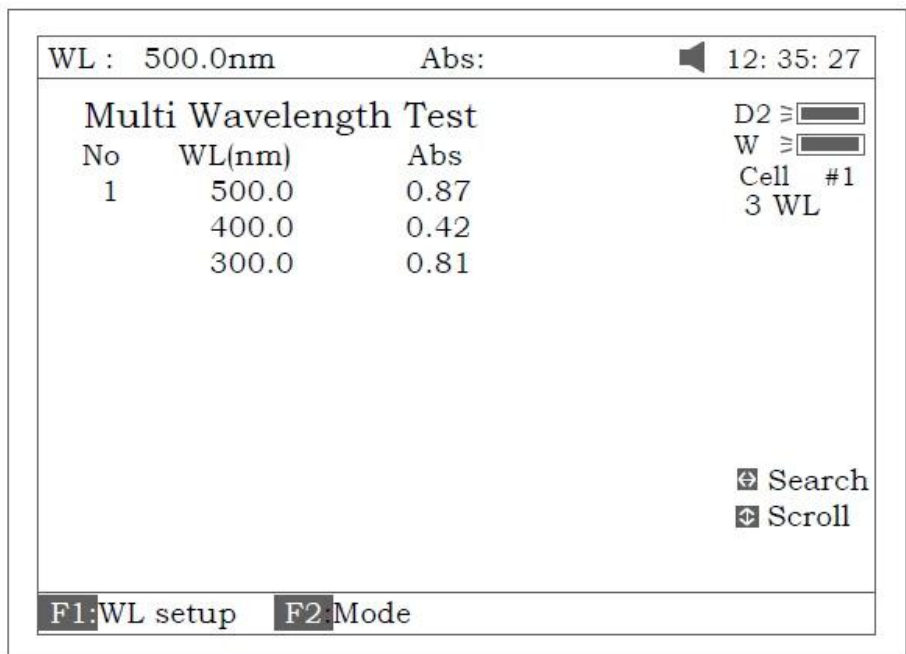

Figure 71
4. Pull the sample cuvette into Main Light Path, press **【START】** to test. The test results will be displayed on the screen (Fig 71).